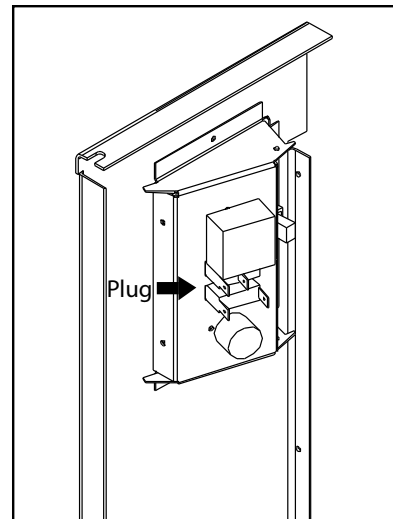

Figure 32: Control Panel Back - Timer.
After the surround has been assembled and is ready to be installed on the unit, plug the wiring harness into the control panel (see Figure 32).
3. Plug the wiring harness into the control panel (see Figure 32).